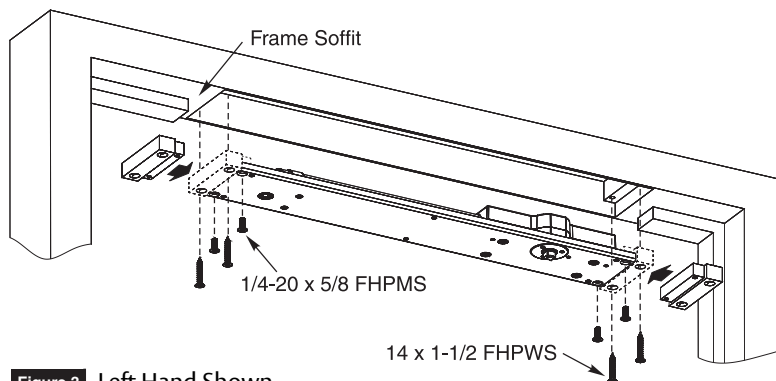

Figure 3 Left Hand Shown
2. Install closer in prepped frame with four (4)  $14 \times 1-1/2"$  FHPWS mounting screws provided. (Figure 3)